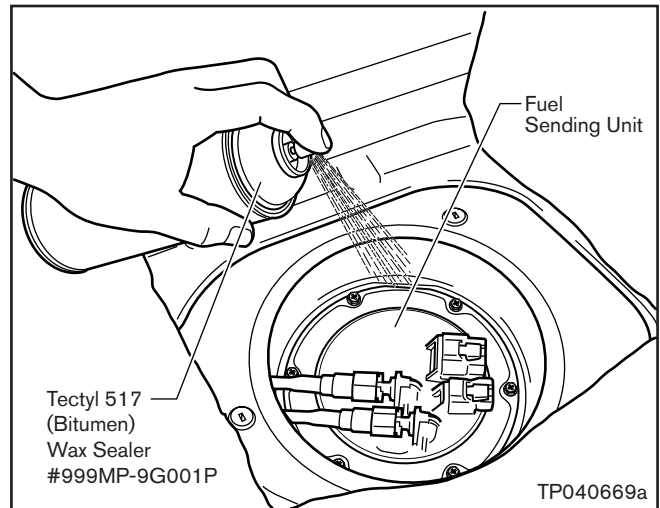

Figure 42
b. Apply **ONLY** Tectyl 517 (Bitumen) Wax Sealer (999MP-9G001P) around the outer edge of the Fuel Sending Unit Mounting Flange (see Figure 42).